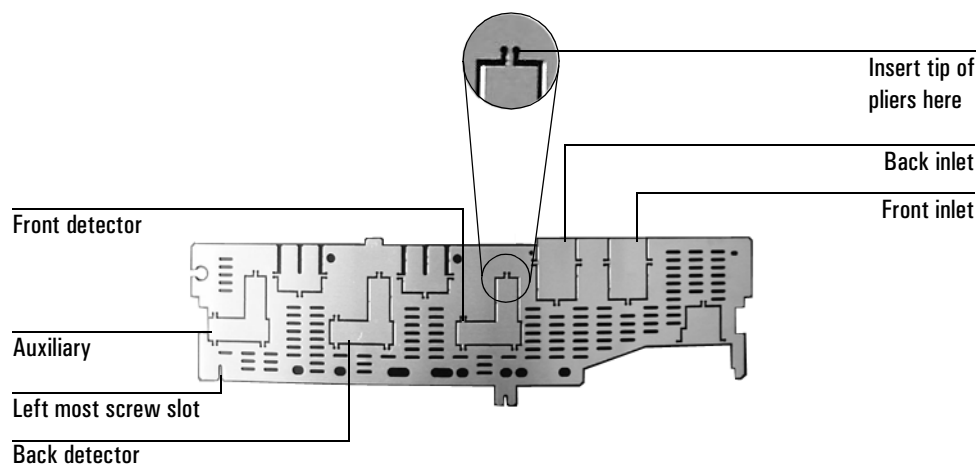

Figure 9 Top rear panel cutouts
9. Using a pair of needle-nosed pliers, remove the appropriate top rear panel detector cutout for the FID. Also remove any cutouts needed to access other manifolds or accessories installed in the GC. See Figure 9.